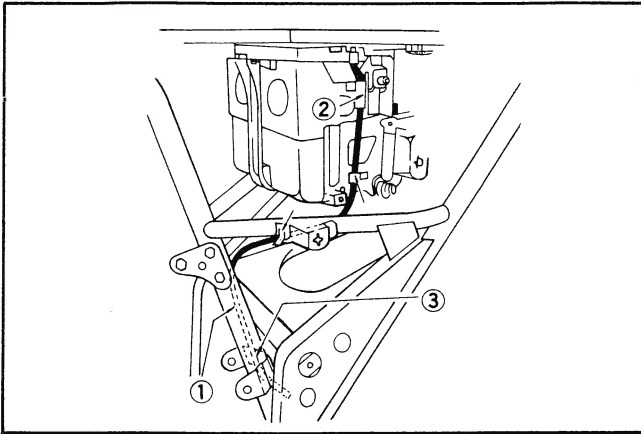

Fig. 44
- c) Route the breather pipe as illustrated. (Fig. 44)